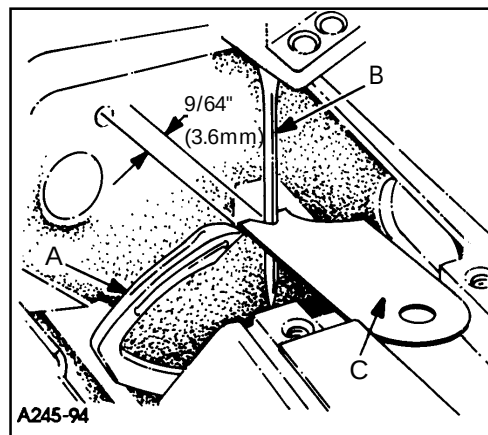
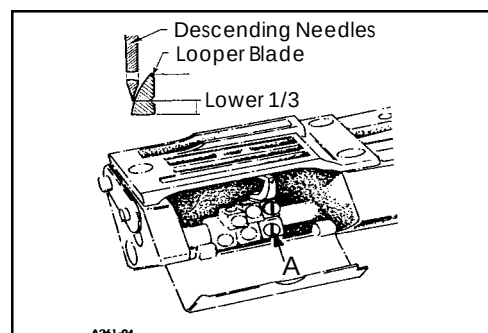

FIG. 6
FIG. 7
Insert a new set of needles, type and size specified. Always adjust the looper (A, Fig. 6) for the left needle first. Set the looper so that the distance from the center of the needle (B) to the point of the looper (A) is $9/64"$ (3.6mm) when the looper is at its farthest position to the left. Looper gauge (C) No. 21225-9/64 can be used advantageously in making this adjustment. If adjustment is required, loosen screw (A, Fig. 7) in looper holder, permitting movement in either direction to attain the $9/64"$ (3.6mm) dimension as shown in Fig. 6. Retighten screw (A, Fig. 7). Repeat for other needles and loopers.
Rotate handwheel in operating direction to assure that the looper point passes to the rear of the needle to touch but not to deflect the needle. This adjustment can be made by loosening screw (A, Fig. 7) in looper holder. Looper holder can be moved front to back to attain looper to needle setting. Always check the $9/64"$ (3.6mm) looper gauge setting after setting the looper to the back of the needle, and conversely, always check the setting of the looper to the back of the needle after setting the $9/64"$ (3.6mm) looper gauge.
The amount of looper avoid has been set at the factory to .110" (2.8mm). If it becomes necessary to adjust the amount of avoid it is recommended as a starting point, to have the points of the descending needles contact the back of the lower 1/3 of the back of the looper blade. (See Fig. 7).